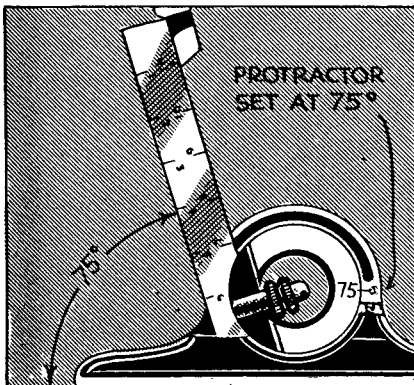

FIG. 401
8. Loosen the tool-post screw and move the tool holder until the cutting edge of the tool is approximately in line with the scribed line, or until the cutting edge coincides with the blade of the protractor set at 75° (Fig. 401). (Refer also to page 226 for angular measurements.)